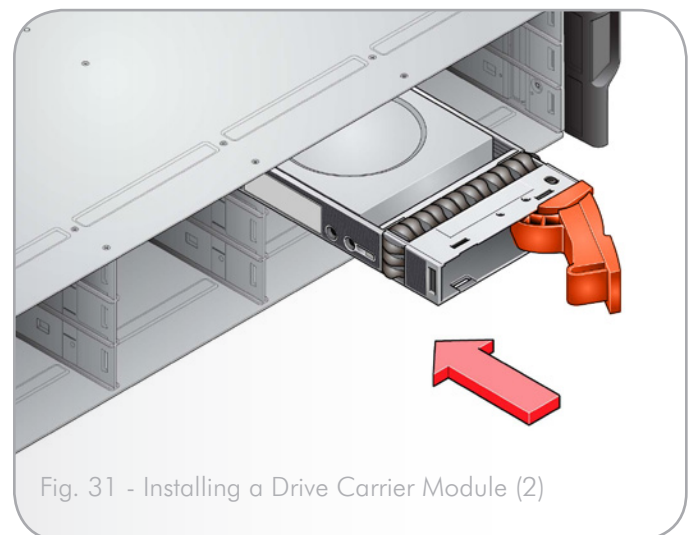

Fig. 31 - Installing a Drive Carrier Module (2)
2. Insert the drive carrier into the enclosure (Fig. 31).